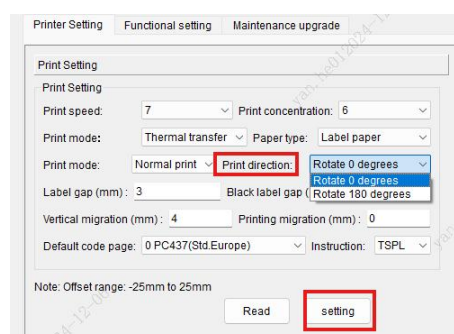

Fig.11
- ⑥ **Printing Direction:** Includes rotate 0 degrees, rotate 180 degrees (shown in Fig.11).